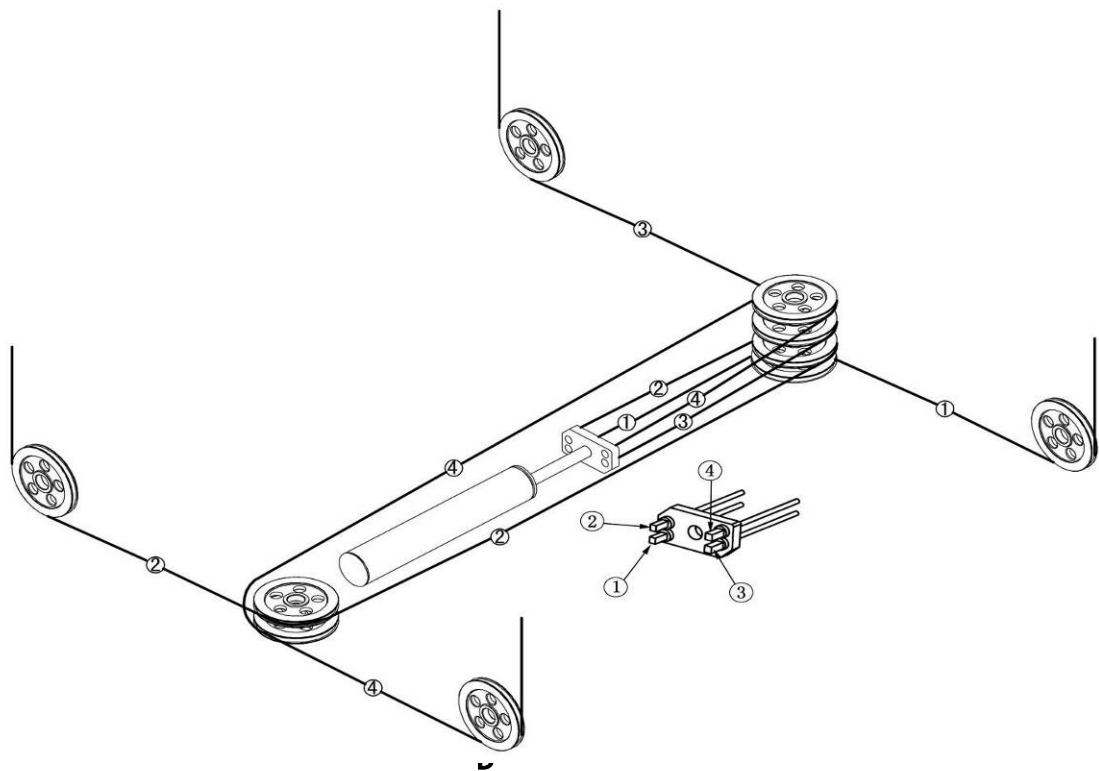

**Fig. 20**
**I. Assemble the pulleys back to the power side platform. Install the offside platform on the cross beams and check the plumb of columns with a level, adjust with the shims and tighten the Anchor Bolts (See Fig. 20).**